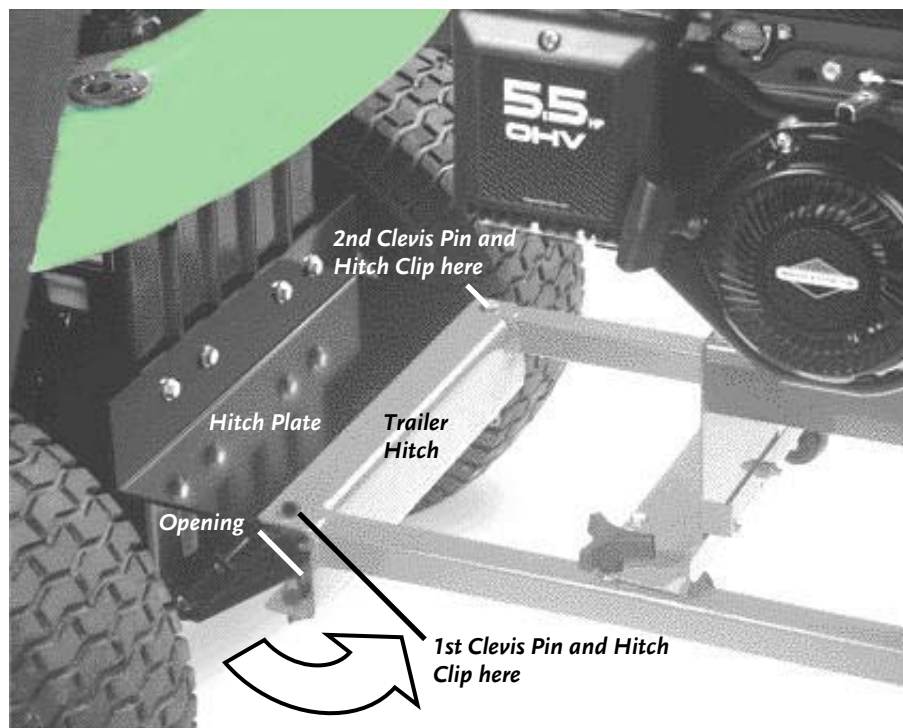

Figure 13
1. Position your lawn tractor on level ground at a slight angle to the Two-Point Trailer Hitch on the DR LEAF and LAWN VACUUM (**Figure 13**) and set the parking brake.
2. Lift the Trailer Hitch and position one end of the Hitch so that the Hitch Plate is in the opening of the Trailer Hitch (**Figure 13**).
3. Align the closest hole in the Hitch Plate with the corresponding holes in the Trailer Hitch and insert a Clevis Pin w/Rubber Washer and Hitch Clip (**Figure 13**).
4. Pivot the Trailer around so that the Trailer Hitch moves in toward the Hitch Plate; aligning the remaining holes in the Hitch with outermost hole on the other end of the Hitch Plate (**Figure 13**).